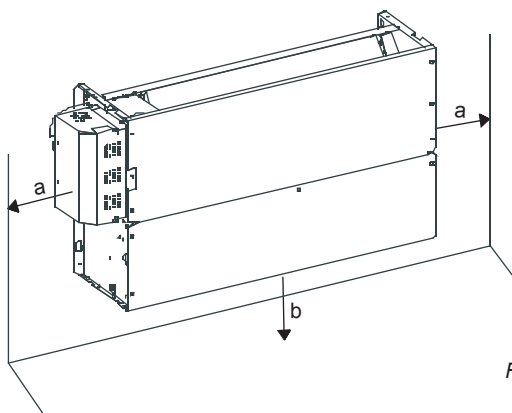

Fig. 4-5
4.1 The units may be mounted vertically, provided that the correct clearances for positioning are maintained. (Refer to Fig. 4-1~Fig.4-5)